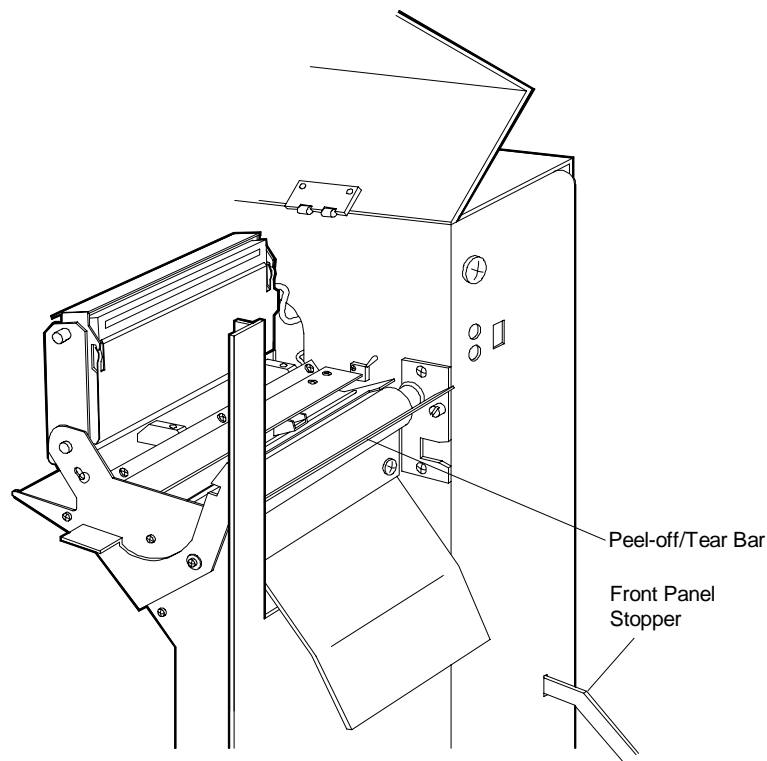

Figure 4-12 Peel-off/Tear Bar Removal (Model 48 and 412)
7. Remove the peel-off/tear bar from the printer by sliding it out of the slots (see Figure 4-12).